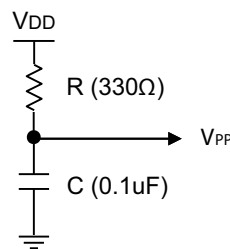

Figure 136. RC Delay Circuit
The TEST pin on the socket board for the MTP Writer must be connected to V_{DD} (5.0V) with RC delay as shown in Figure 136 (only when SPW 2+ and GW-pro2 are used). The TEST pin on this socket board must not be connected to V_{PP} (12.5V), which is generated from the MTP Writer. Therefore, the specific socket board for the S3F8S5A MCU must be used when writing or erasing using the MTP Writer.
► **Note:** If the writer tool you are using is the SPW 2+ or the GW-pro2, refer to Figure 136.